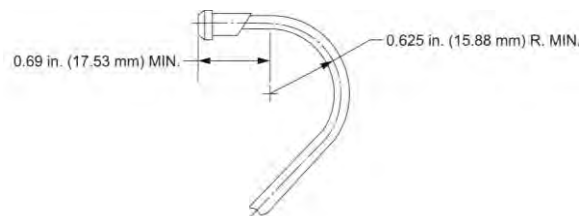

Figure 4
- (1) Make sure there is a minimum clearance of 3/16 in. (4.76 mm) between a fuel line and any engine or aircraft surface.
- (2) Make sure the fuel line is not crimped or kinked, there are no cracks at solder joints, and the fuel line is in compliance with Figure 4 for the minimum acceptable dimension for a bend in the fuel line.